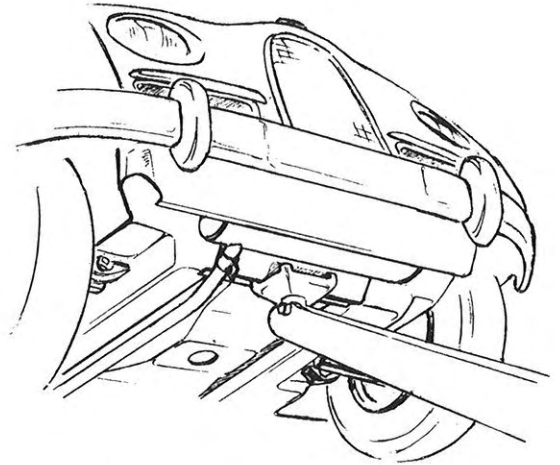

Fig. 2. Jacking up front end
A pick-up point for a shop jack is welded onto the front edge of the underside of the engine compartment floor, just behind the front muffler. See Fig. 2. This should be used when the front end is raised for lubrication of the ball joints.
Chapter 12, Fig. 2: Change items 32 and 33